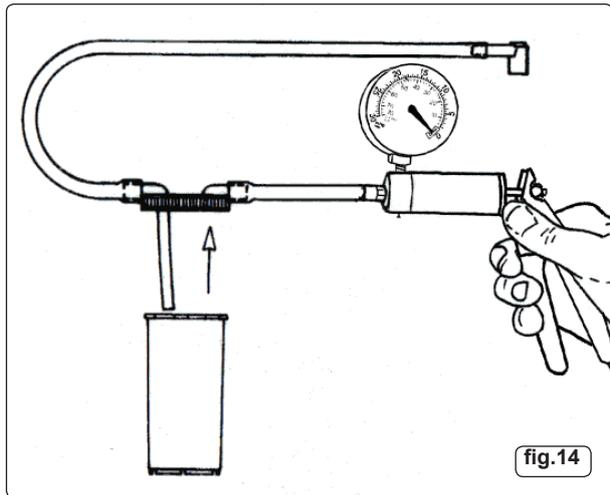

fig.14
8.2.1. Ensure that the vacuum pump is connected to the brake bleeder reservoir in accordance with the assembly diagram (fig.14). Failure to do so will result in brake fluid being drawn into the vacuum pump.